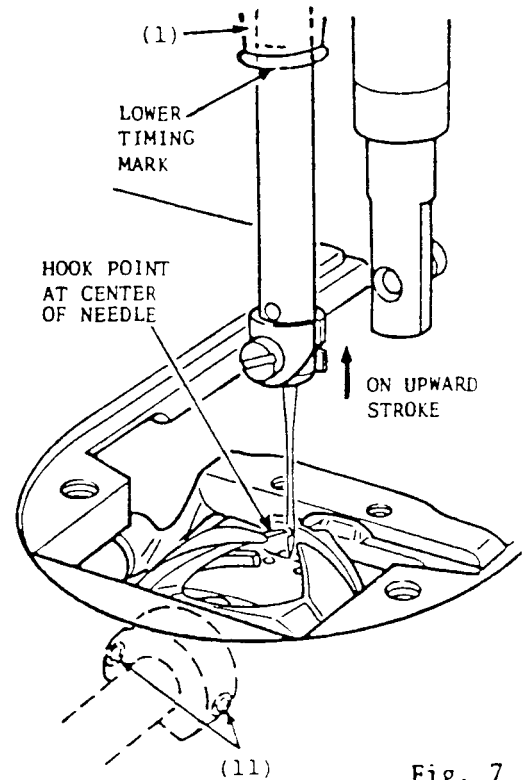
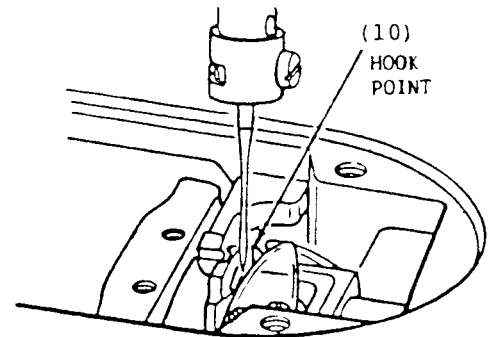
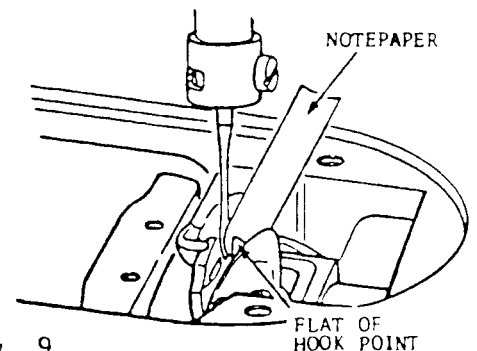

Fig. 7
Fig. 8
Fig. 9
When lower timing mark on needle bar is level with lower end of lower needle bar bushing (1), the point of the sewing hook should be at the center of the needle, as shown in Fig. 7.
Also, when point of sewing hook passes needle, clearance between hook point (10), Fig. 8 and needle should be approximately equal to thickness of a piece of ordinary notepaper (about .13 mm), as shown in Fig. 9.
Loosen two set screws (11), Fig. 7 in hub of hook. Then retighten one of the set screws very lightly so that the sewing hook can still be turned on the shaft.
Hold shaft immovable and turn hook as required to bring point of hook to center of needle as shown in Fig. 7 and at the same time adjust clearance between needle and hook point as shown in Fig. 9.